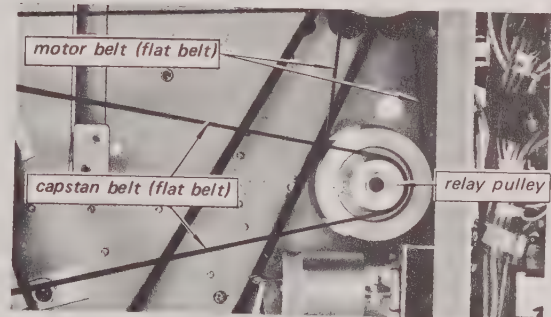

Fig. 5-49. Relay pulley removal
1. Remove the Capstan and Motor Belts. See Fig. 5-49.